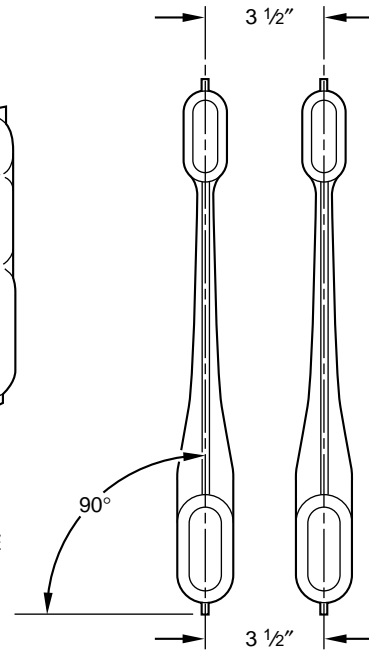

Fig. 3
13. With all screws started, remove masking tape and drive all screws in rest of way. Maintain 3-1/2 in. centers as shown in Fig. 3 to assure proper cell alignment.
14. Repeat Step 4 items 2 through 10, for additional cells being replaced.
6. With all screws started, remove masking tape and drive all screws in rest of way. Maintain 3-1/2 in. centers to assure proper cell alignment. (See Fig. 3.)